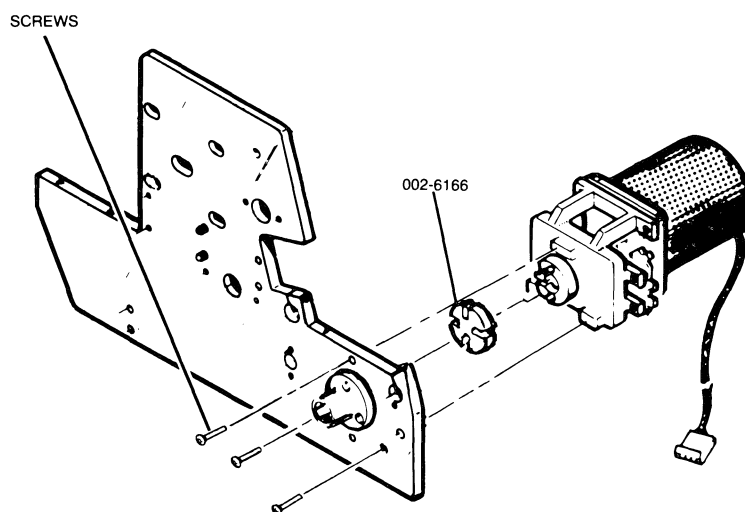

Figure 5.9 Carriage Motor Removal
3. Remove carriage motor assembly from the right end plate by removing three screws securing the motor mount bracket (see Figure 5.9). There is no lock washer on the top screw.